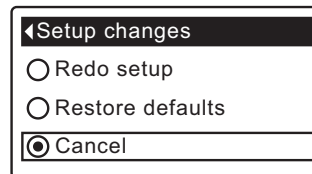

FIG. 81
7. Press the OK/MENU button to display the Setup changes menu (See Figure 81).
8. If the desired option already has a black dot next to it (See Figure 81), go to Step 9. Otherwise, press the DOWN ▼ or UP ▲ buttons to scroll to the desired option, then press OK/MENU to choose it.